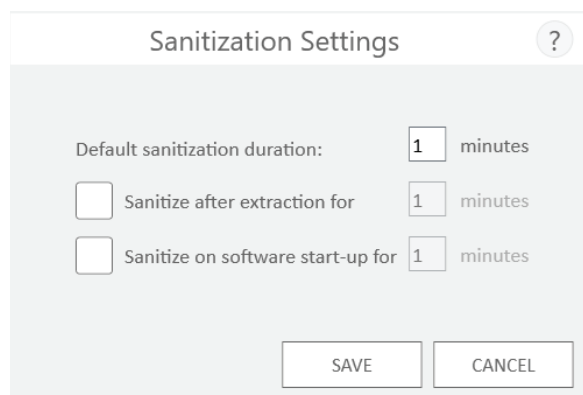

Figure 13. The 'Sanitization Settings' screen.
2. Three sanitization settings are present on the 'Sanitization Settings' screen (Figure 13). These are described below: